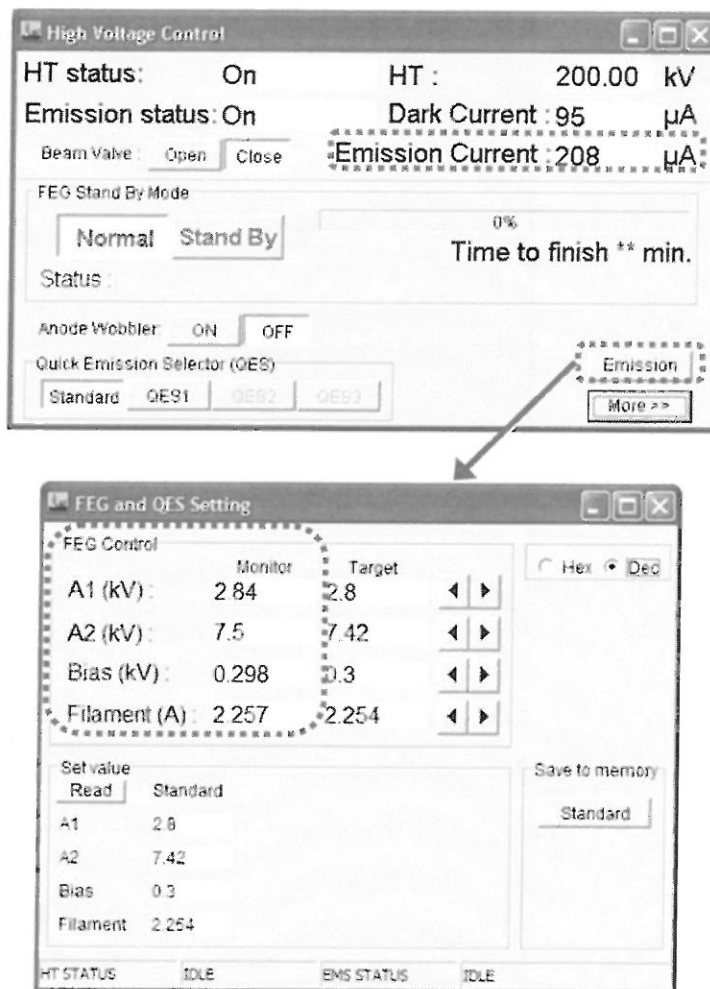
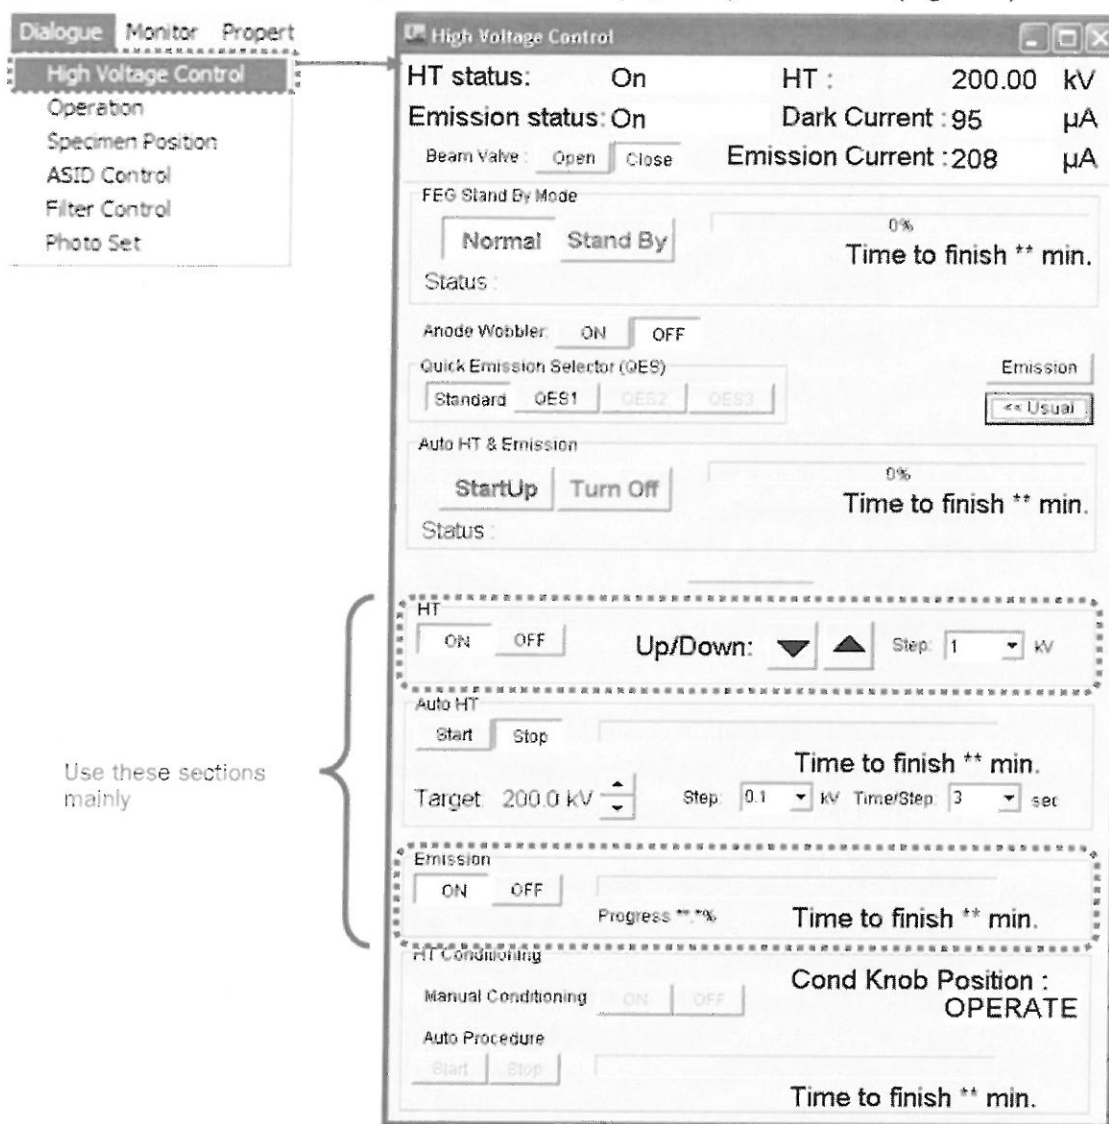

Fig. 5.17 FEG and QES Setting window
Fig. 5.19 High Voltage Control window
4. If the value of "Emission Current:" is not specified, click **Emission**, display the FEG and QES setting window (Fig. 5.17), read the display value for "A1", "A2", "Bias", "Filament" (Monitor) and contact the JEOL service office.
When the electron beam is turned on or off in automatic mode, the electron beam cannot be turned on manually. Execute this operation only when instructed by service personnel. Users are requested to refrain from executing this procedure. The High Voltage Control window and FEG and QES Setting window (Fig. 5.19) will be used (Fig. 5.17).